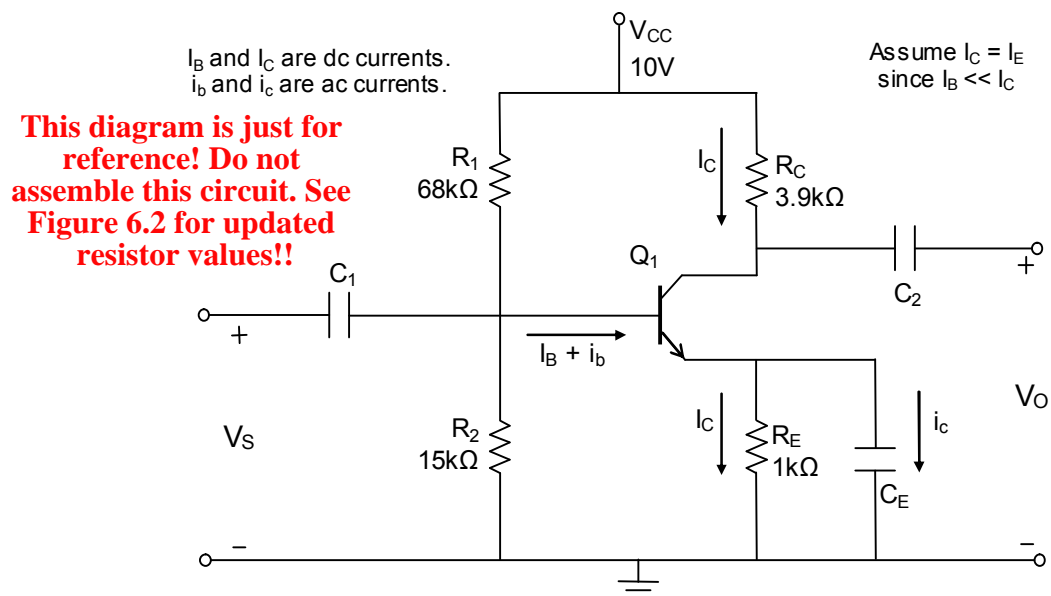

Figure 6.1: Common-emitter circuit with emitter bypass capacitor
- (ii) In the second part of the simulation, transient analyses should be performed in B2 Spice on the circuit shown in Figure 6.1 for $R_2 = 1k\Omega$, $5k\Omega$, $15k\Omega$, and $25k\Omega$. Record the values of V_S and V_O . Assume $V_S = 0.02V_{P-P}$ at 1kHz, the transistor is a 2N3904, and all capacitors are greater than or equal to $10\mu F$. For the second part, you may use source resistance $R_S (=50\Omega)$.
Figure 6.1 shows a schematic diagram of a BJT common-emitter (CE) amplifier circuit. BJT transistor amplifiers are frequently used in the common-emitter configuration (CE), since this design gives both a high current gain (A_i) and a high voltage gain (A_v). This experiment explores the dc and ac characteristics of the common-emitter circuit and how changing the Q-point affects circuit performance.